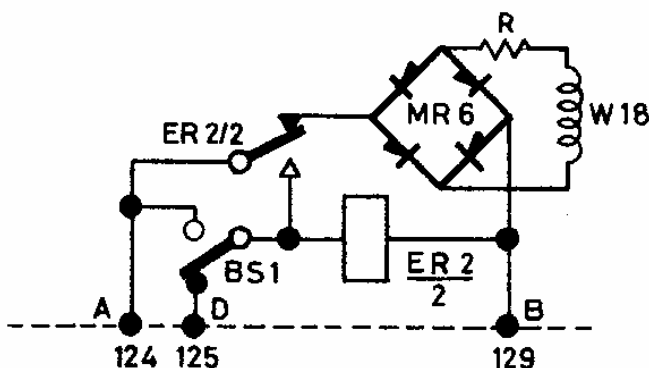

Fig 44A. Circuit of YM Series Potter Bucky with Interchangeable Grid.
10. Potter Bucky Circuit Function See Fig 44A